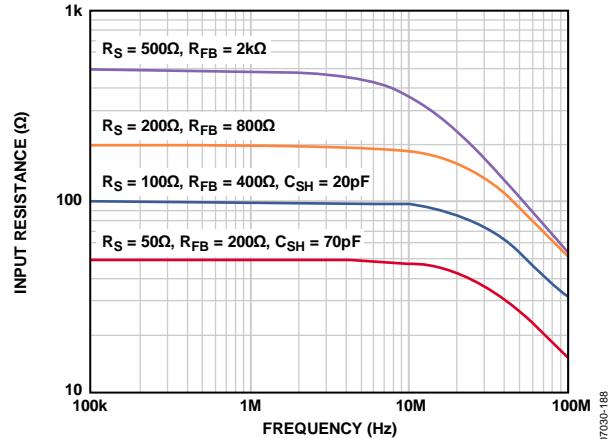

Figure 40. R_{IN} vs. Frequency for Various Values of R_{FB}
The bandwidth (BW) of the LNA is greater than 100 MHz. Ultimately, the BW of the LNA limits the accuracy of the synthesized R_{IN} . For $R_{IN} = R_S$ up to about 200 Ω , the best match is between 100 kHz and 10 MHz, where the lower frequency limit is determined by the size of the ac-coupling capacitors, and the upper limit is determined by the LNA BW. Furthermore, the input capacitance and R_S limit the BW at higher frequencies. Figure 40 shows R_{IN} vs. frequency for various values of R_{FB} .